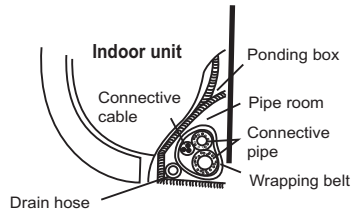

Fig.14
- Bundle the tubing, connecting cable with tape securely, evenly as shown in Fig.14 .